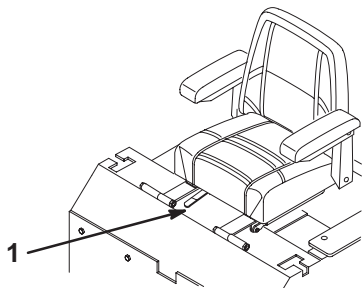

Figure 23
1. To adjust, move the lever sideways to unlock the seat (Fig. 23).